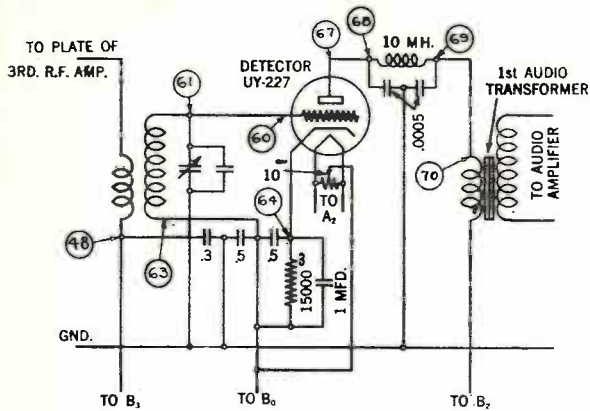

Fig. 81 - Linear Power Detector.
(6) Power Detection. The sensitivity of a detector to weak signals depends upon the values of the plate voltage, the grid condenser and the leak, or grid-bias, voltage. Usually 22½ to 45 volts is sufficient for the plate. A detector designed for weak signals would be unsatisfactory for operation where comparatively large amounts of radio-frequency energy is encountered - as in some of the modern high-powered sets. In these, power detection is used. The basic action is the same, as shown in the schematic circuit of the power detector used in the Stromberg-Carlson "No. 846" receiver illustrated in Fig. 81. The main difference is that a plate voltage of 250 volts is employed with a grid-bias voltage of about 28 volts. Where these detectors are used it is seldom that more than one stage of audio-frequency amplification is required; the detector feeds directly into the push-pull power stage, resulting in very quiet operation with excellent quality. The values of the parts are given in the illustration.
(10) Sensitivity. Lack of sensitivity in the detector is usually due to a poor tube, or to wrong plate or filament voltages. An open grid leak or condenser is a contributing cause.
(11) Noise. In addition to microphonic howl, noise is caused by a poor or loose grid-leak resistor or dirty socket connections.
(12) Hum. Hum is usually caused by induction from near-by A.C. circuits, due to poor shielding or lack of proper by-pass condensers in the grid and plate circuits.
(13) Overloading. In modern powerful sets using power detection, the detector is sometimes overloaded, causing distortion or "dead spots" on the tuning dial. The latter produces the effect of double resonance. The station may be slowly tuned in, approaching a maximum of volume as the set approaches resonance, until the detector is overloaded, causing a decrease in volume with the set tuned to resonance. Tuning beyond resonance removes the overload from the detector and the volume increases again. One may be deceived by this and think that the tuning system is out of order, when in fact the detector is at fault. In this case, the plate voltage should be adjusted to suit the particular location of the set, depending upon its proximity to broadcast stations and the particular stations that the customer desires. The grid leak or "C" bias voltage should be correspondingly changed.
(14) Filter Circuits. The radio-frequency energy that passes through the detector would cause havoc in the audio-frequency amplifier if it were not filtered; noisy, choked, distorting sounds would result. Usually a single .0005-mf. by-pass condenser, connected between the plate and filament of the detector, or across the primary of the first stage audio transformer (or the plate resistor in a resistance coupled amplifier) will suffice. A better filter is illustrated in the circuit of Fig. 81. Here two condensers of .0005-mf. each and a 10-mh. choke, connected as shown, are used. A filter of this kind could with advantage be easily added to a set having the above trouble. It will not interfere with the normal audio quality.